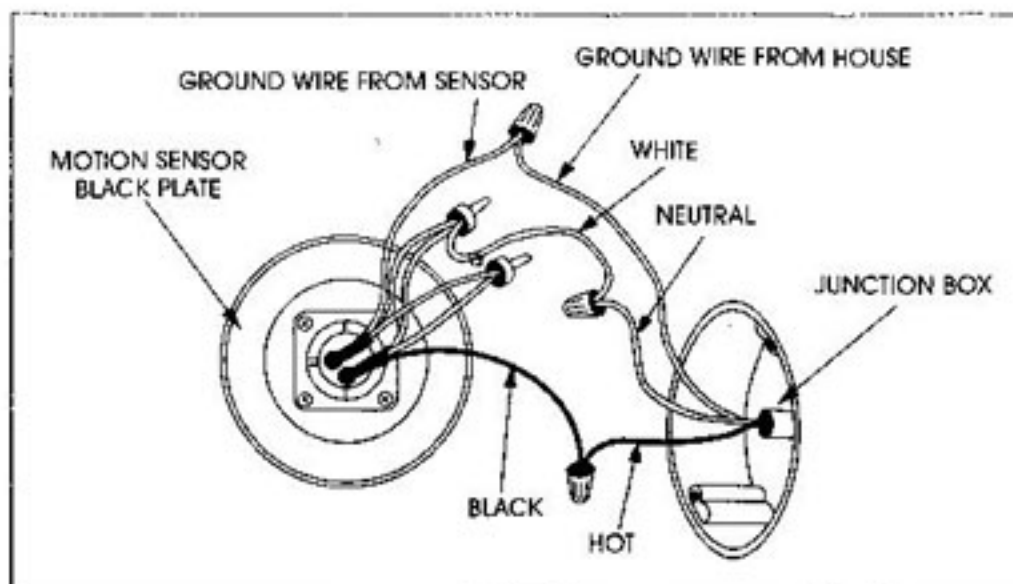

FIGURE 1: Installing the fixture
5. Now, mount the fixture to the junction box using the included mounting screws. See figure 1.